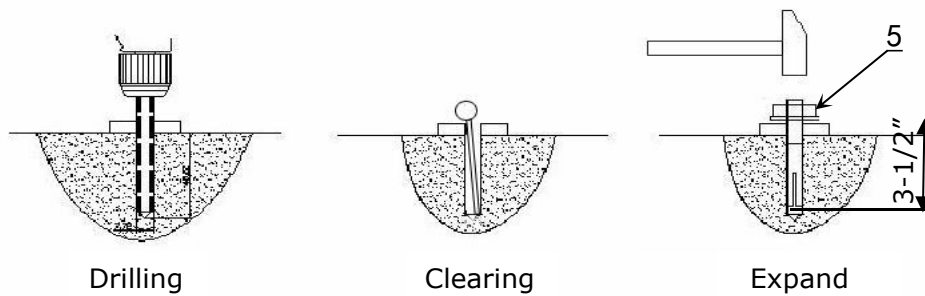

Fig. 16
2. Using the prescribed rotary hammer drill, and drill all the anchor holes and install the anchor bolts, do not tighten the anchor bolts first (**See Fig. 16**).